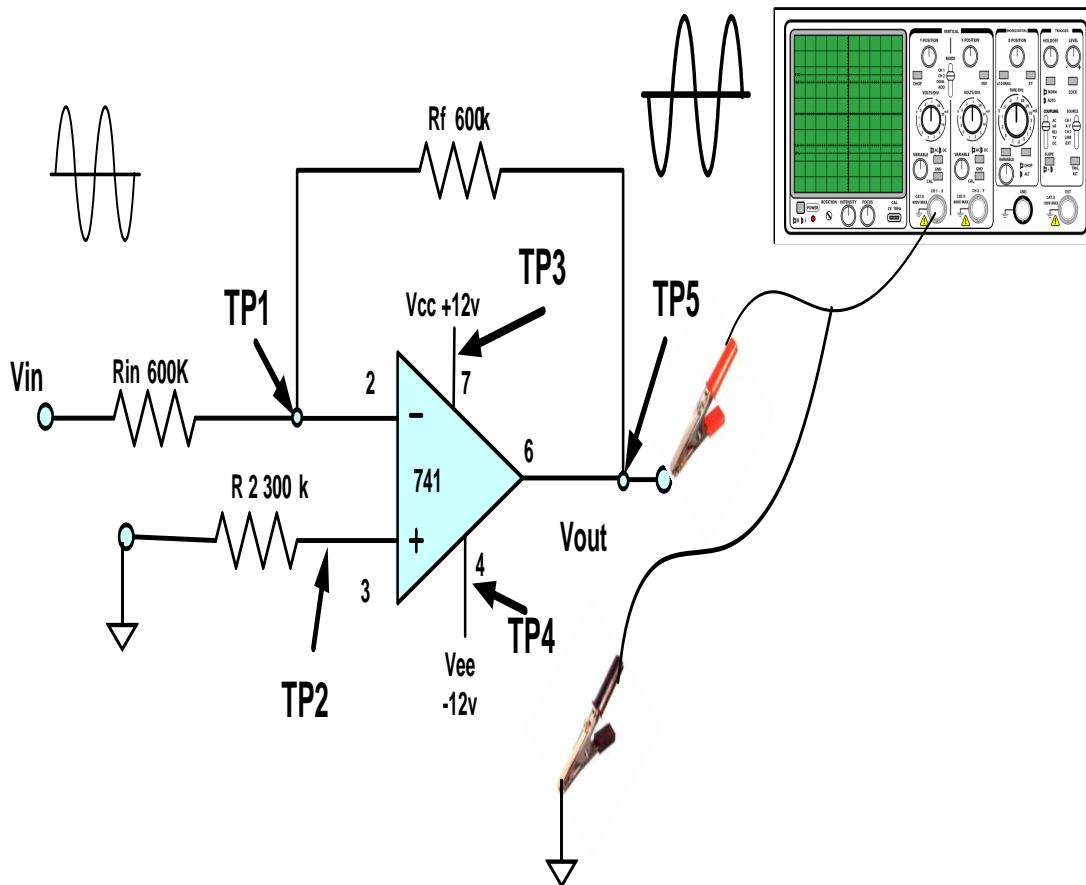

Figure 3.2
1. Assemble the circuit as shown in the Figure 3.2